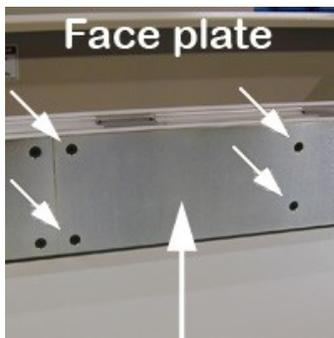

Fig. 11 — TigerTurbo face plate.
5. Undo the screws securing a section of the TigerTurbo face plate (Fig. 11) and remove the plate, to let the carriage and belt clamps be accessed.
5. Reattach the steel face plate (Fig. 11) that was removed to access the belt.